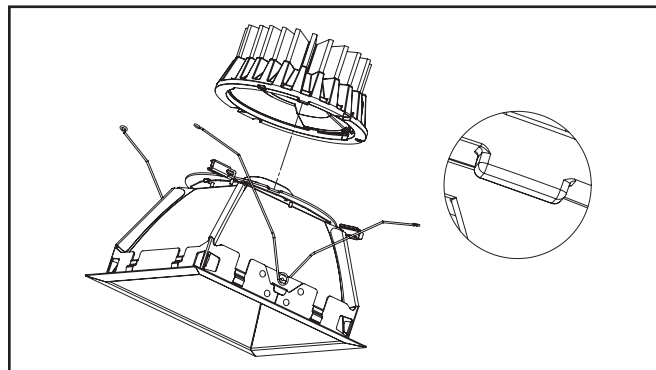

Figure 5
4. Insert LED engine on to trim assembly. Align post on LED engine with slot on trim assembly (Figure 5.)